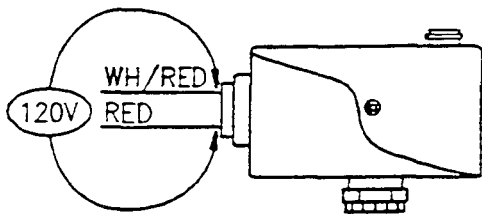

Figure 6-27. Steam Relief Valve
6. Refer to Figure 6-27. Check for 115 VAC across the solenoid terminals of the steam relief valve.